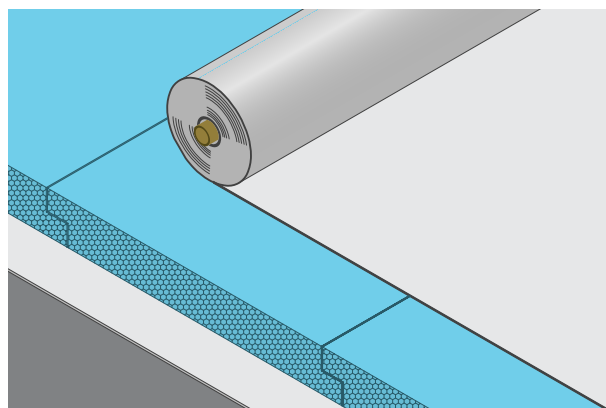

Figure 17
6. Lay the filter layer (if required) with 150mm laps or if ROOFMATE MK 300mm laps at right angles to the slope (Figure 17). At upstands and penetrations turn up the filter layer so it finishes above the surface of the ballast.